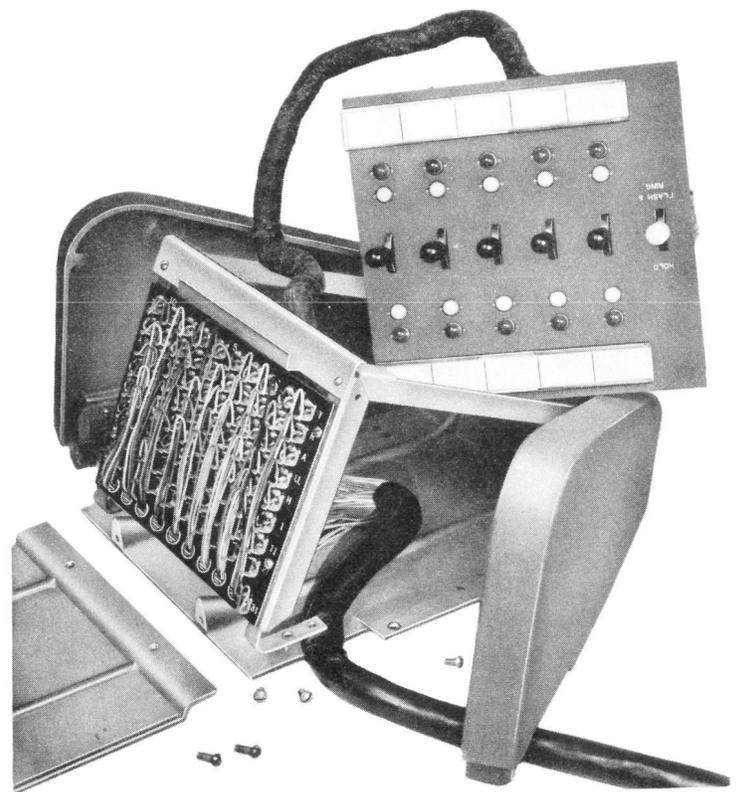

Fig. 13 — Assembling Key Unit in 700-type Apparatus Case
7. Remove two screws and raise one end of the rear terminal frame. Place cable in corner of frame and replace screws (Fig. 13).